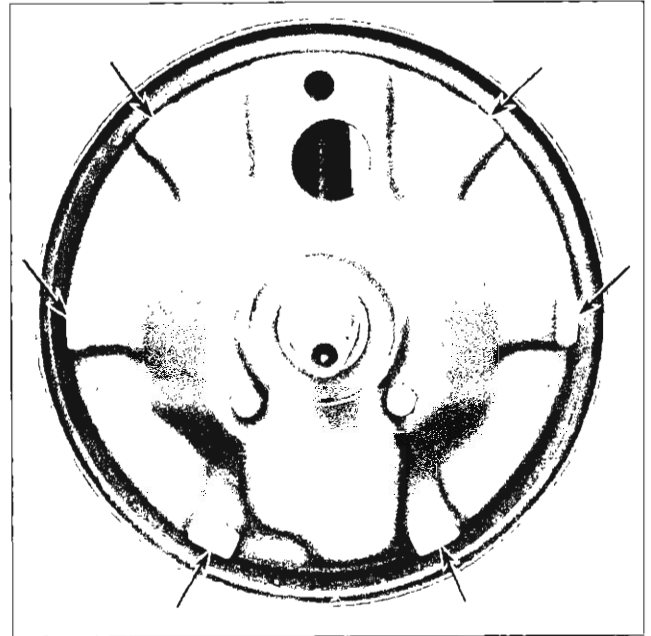

Fig. 11—Backing Plate Contact Faces
14. Pry shoes away from the backing plate and lubricate shoe contact surfaces with a thin coating of brake lube (fig. 11).